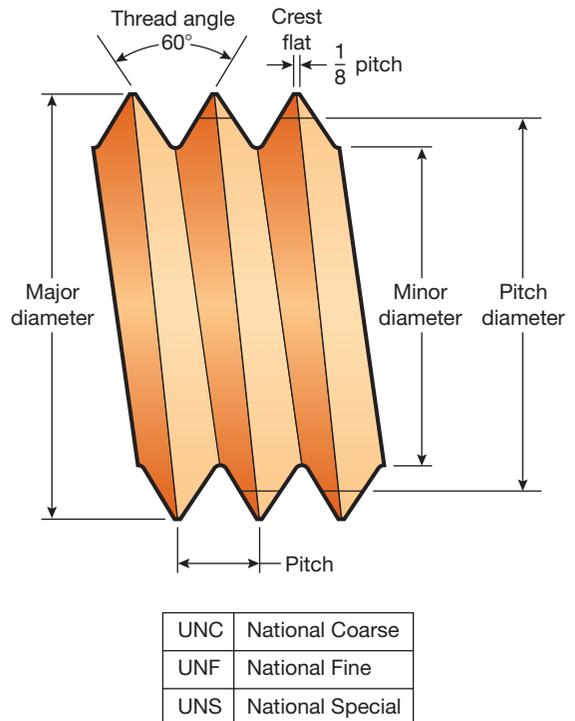

Figure A-13 Unified thread form.
There are a number of thread forms. In later units you will examine these in detail, and you will have the opportunity to make several of them on a machine tool. The most common is the unified thread form (Figure A-13). The unified thread form is an outgrowth of the American National Standard form. It was developed to help standardize manufacturing in the United States, Canada, and Great Britain.
**Thread Angle**—The angle of the thread is the included angle between the sides of the thread (see Figure A-13). For example, the thread angle for Unified Screw Thread forms is 60 degrees.
**Major Diameter**—Commonly known as the outside diameter (see Figure A-13). On a straight screw thread, the major diameter is the largest diameter of the thread on the screw or nut.
**Minor Diameter**—Commonly known as the root diameter (see Figure A-13). On a straight screw thread, the minor diameter is the smallest diameter of the thread on the screw or nut.